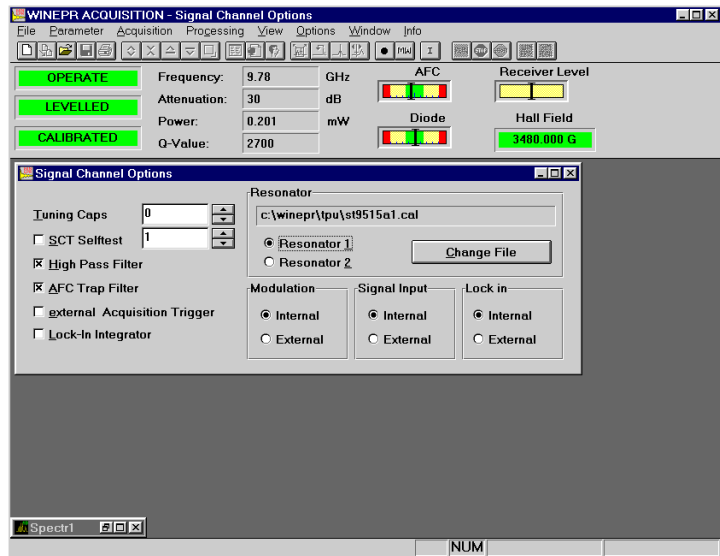

Figure 9-2 Signal Channel Options.
5. **Check the signal channel options settings.** Open the Signal Channel Options dialog box. Make sure you have the right calibration file for the standard cavity you are using. High Pass Filter and AFC Trap Filter (See Figure 9-2.) are checked in the default settings. In case the default settings have been changed, set them back.